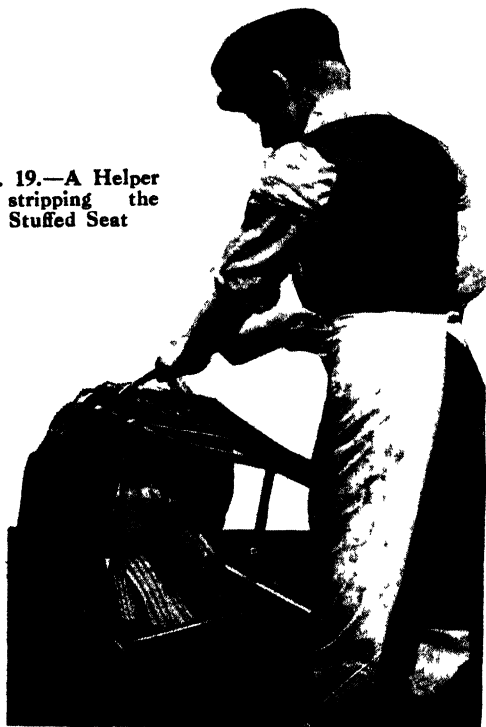

Fig. 18.—Parlour Chair to be Repaired
**Repairing Parlour Chairs.**—Fig. 18 shows a chair which was submitted to be repaired, upholstered and polished: The first thing is to strip off the upholstery. An old packing-case about